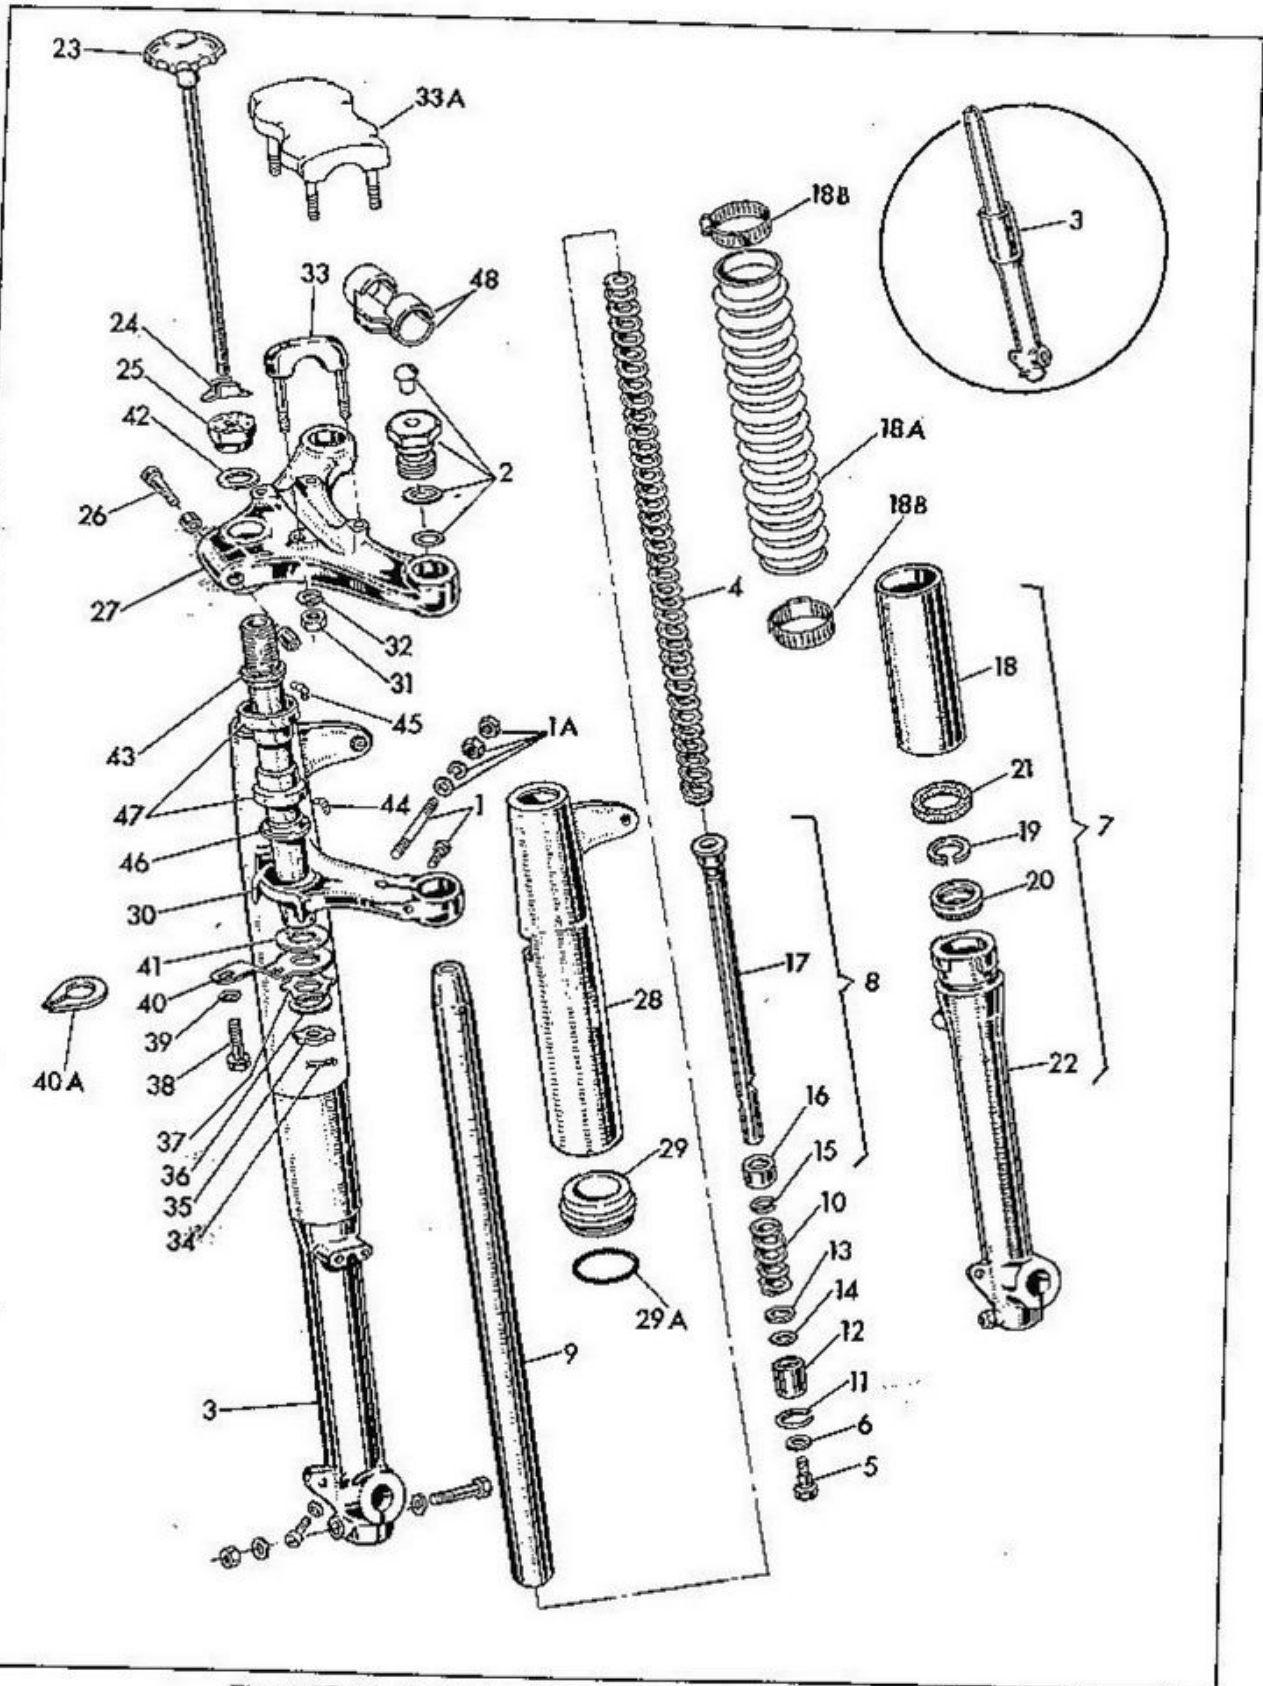

Figure 2F-54. Front Fork (1970 and Earlier) - Exploded View
Insert 1/8" diameter rod approximately 24" long through bottom of fork tube and engage end of rod in buffer spring (10) coils. Push buffer spring out through top of fork tube. To remove damper valve body snap ring (11) it may be necessary to notch lower end of fork tube allowing use of pointed tool to lift snap ring from its groove to remove it. See Fig. 2F-56. Using 5/8" dia. rod or pipe approximately 24" long inserted through top of fork tube, drift damper valve body (12 Fig. 2F-54) down out of fork tube by striking rod or pipe with hammer. The damper valve washer (13) and damper valve (14) will also be removed along with damper valve body.
Key for Figure 2F-54 (1970 and Earlier)